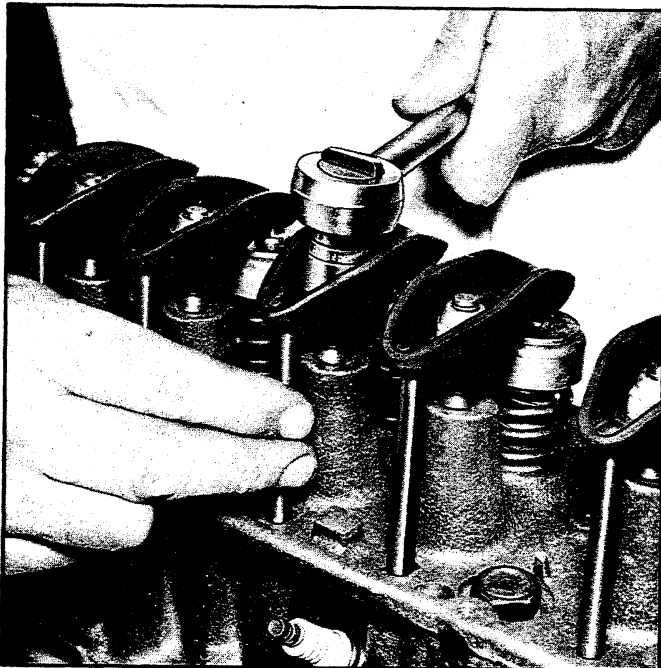

Fig. 2L - Valve Adjustment
- c. Back out adjusting nut until lash is felt at the push rod then turn in adjusting nut until all lash is removed. This can be determined by checking push rod side play while turning adjusting nut (fig. 2L). When play has been removed, turn adjusting nut in one full additional turn (to center lifter plunger).